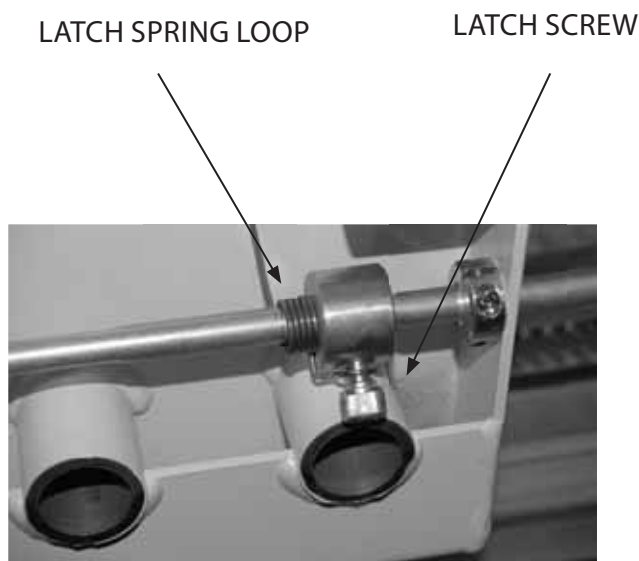

Figure 16-1
**1.** Verify the latch spring loop is wrapped around the latch screw. [Figure 16-1]